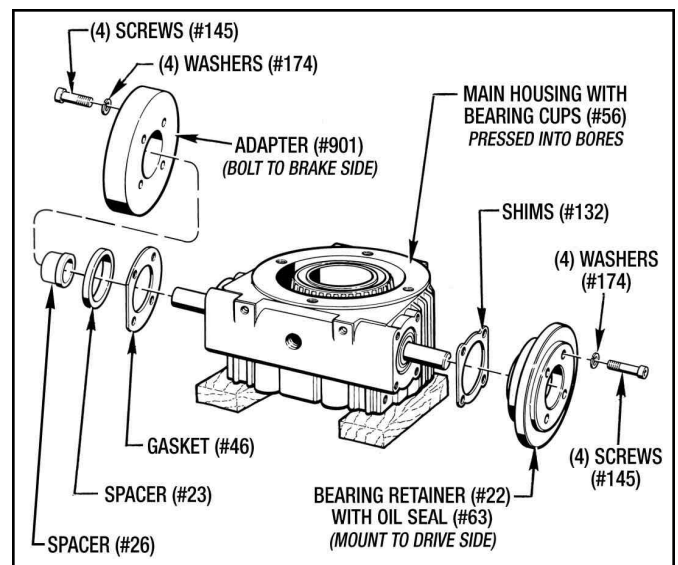

Figure 9.7 - Worm Shaft Assembly
4. Place Spacer (#23) into the brake side bearing bore of the main housing and slide the Spacer (#26) on to the Worm Shaft. (See Figure 9.7)
5. Install Gasket (#46) and bolt Adapter (#901) to the brake side of main housing with (4) Washers (#174) and (4) Screws (#145). (See Figure 9.7)
6. Press Oil Seal (#63) into Bearing Retainer (#22). Place Shims (#132) over the pilot of the bearing retainer and bolt the Bearing Retainer (#22) to the drive side of the main housing with (4) Washers (#174) and (4) Screws (#145). If the worm shaft has an external keyway, place masking tape over the keyway to prevent damage to the Oil Seal (#63) during installation of the Bearing Retainer (#22). (See Figure 9.7)